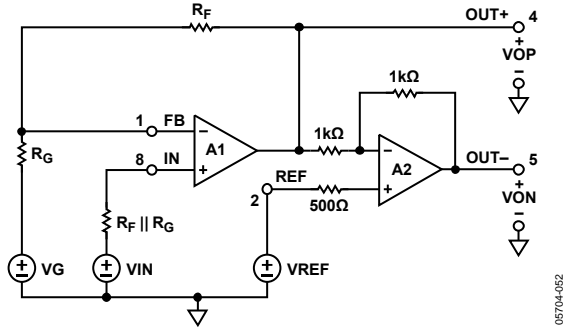

Figure 48. Basic Connections (Power Supplies Not Shown)
The ADA4941-1 is a low power, single-ended input, differential output amplifier optimized for driving high resolution ADCs. Figure 48 illustrates how the ADA4941-1 is typically connected. The amplifier is composed of an uncommitted amplifier, A1, driving a precision inverter, A2. The negative input of A1 is brought out to Pin 1 (FB), allowing for user-programmable gain. The inverting op amp, A2, provides accurate inversion of the output of A1, VOP, producing the output signal VON.
In Figure 48, R_G and R_F form the external gain-setting network. V_G and V_{REF} are externally applied voltages. V_{O, cm} is defined as the output common-mode voltage and V_{O, dm} is defined as the differential-mode output voltage. The following equations can be derived from Figure 48: